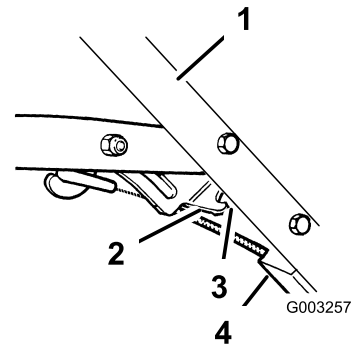

Figure 30
- A. Loosen the nut on the cable bracket (Figure 30).
- B. Insert a 3/16 to 1/4 inch (5 to 6 mm) object between the brake lever and the handle (Figure 30).
- C. Pull down on the cable conduit until you remove the slack from the wire (Figure 30).